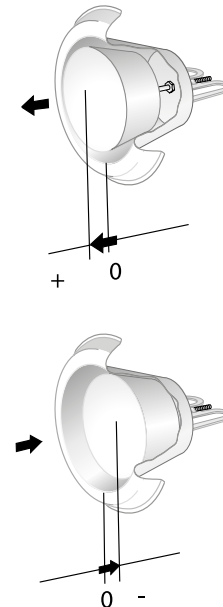

Figure 2. Commissioning.
The extract air valve is commissioned with air pressure measurement or air flow measurement. If air pressure is measured, a "measuring hook" is used, and when air flow is measured, any air flow measurer can be used. See Figures 2 and 3.
- Sound pressure level dB(A) applies to rooms with 10 m2 equivalent sound absorption area.
- The octave band correction value  $K_{OK}$  is given for the zero position of the cone according to Figure 2.